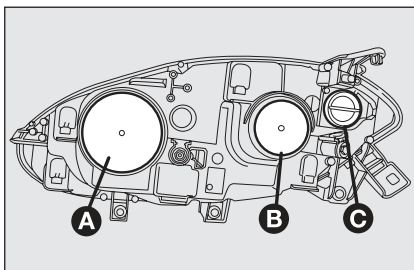
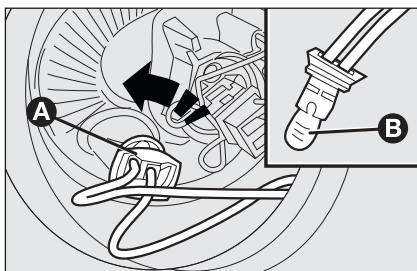

fig. 22
fig. 24
FRONT LIGHT UNITS fig. 22
- ☐ remove the protective cover **B**-fig. 22;
- ☐ refit the protective cover **A**-fig. 22 correctly.
- ☐ remove the protective cover **A-fig. 22**;
- ☐ turn the bulb holder **A-fig. 24** counterclockwise and then withdraw it;
- ☐ fit the new bulb, refit the bulb holder **A-fig. 24** and then refit the protective cover **B-fig. 22** correctly.
- ☐ refit the protective cover **B-fig. 22** correctly.
- ☐ turn the protective cover **C-fig. 22** counterclockwise;